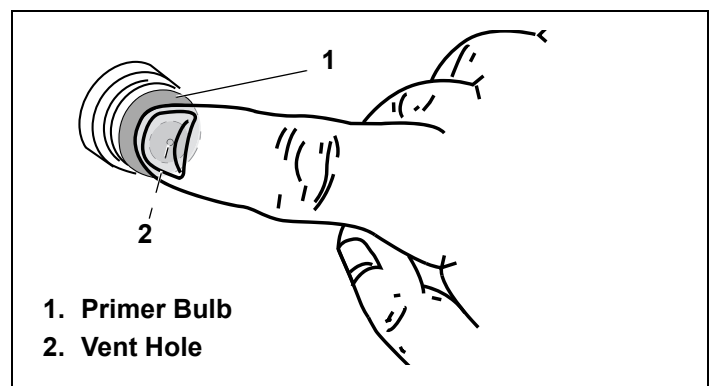

Figure 18. Pressing Primer Bulb
3. When starting a cold engine, press primer bulb firmly 3 times, allowing primer bulb to return completely to original position between pushes. See Figure 18.